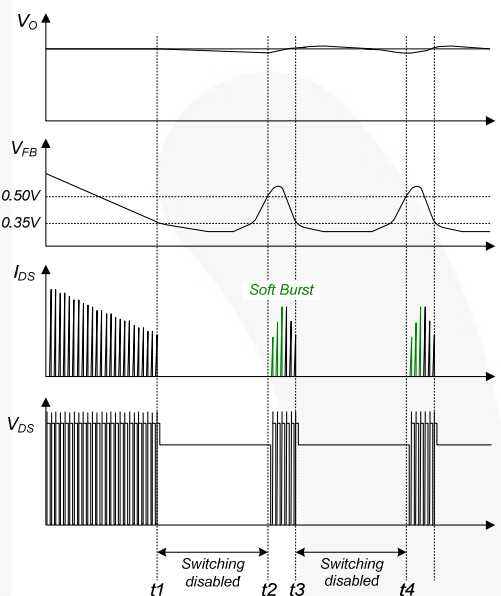

Figure 23. Burst Mode Operation
**5. Soft Burst-Mode Operation:** To minimize power dissipation in Standby Mode, the FSL146MRBN enters Burst-Mode operation. As the load decreases, the feedback voltage decreases. As shown in Figure 23, the device automatically enters Burst Mode when the feedback voltage drops below  $V_{BURL}$  (350mV). At this point, switching stops and the output voltages start to drop at a rate dependent on the standby current load. This causes the feedback voltage to rise. Once it passes  $V_{BURH}$  (500mV), switching resumes. The feedback voltage then falls and the process repeats. Burst Mode alternately enables and disables switching of the SenseFET, thereby reducing switching loss in Standby Mode.